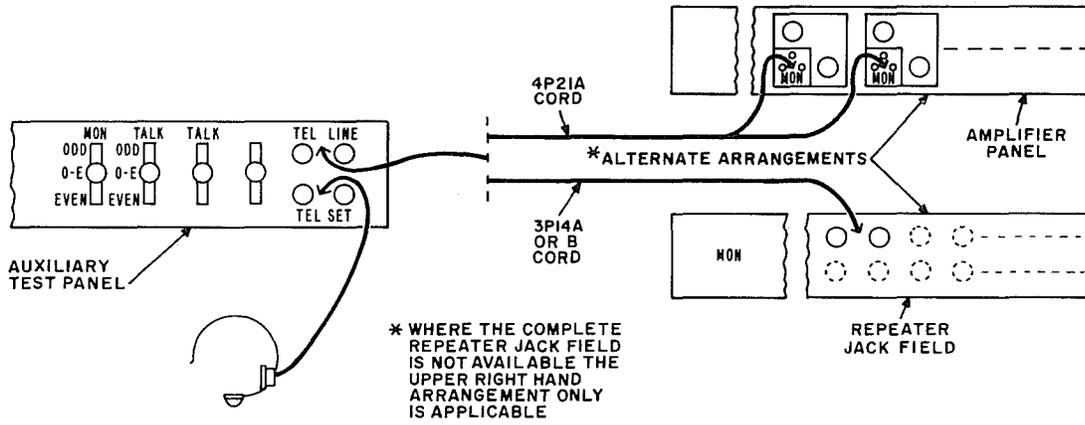

Fig. 3—Amplifier Units in Working Sockets
2.03 The TALK key on the auxiliary test panel, see Fig. 3, is a locking key. The tester should make sure the TALK key is not operated when the telephone set is connected to a working circuit for the purpose of monitoring, and that the key is restored to normal following its use. These measures are necessary to avoid introduction of undesirable loss and noise into the overall transmission path of circuits to which the telephone set may be connected and to prevent current drain.
2	Establish patches shown in either Fig. 3 or 4, whichever is applicable. The telephone set is now arranged to monitor in both directions.